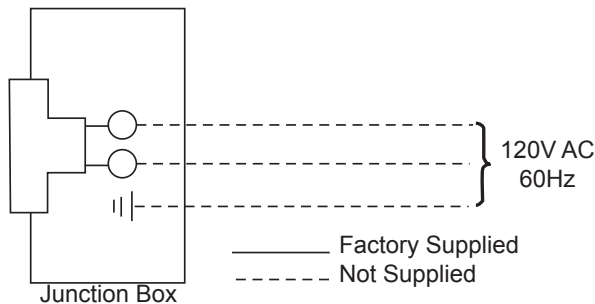

Figure 38 - Junction Box Wiring Diagram
3. The junction box cover has a factory installed “romex” style strain relief connector. After connecting the wires, route the wire leads through this connector. Refer to the wiring diagram in *Figure 38*.